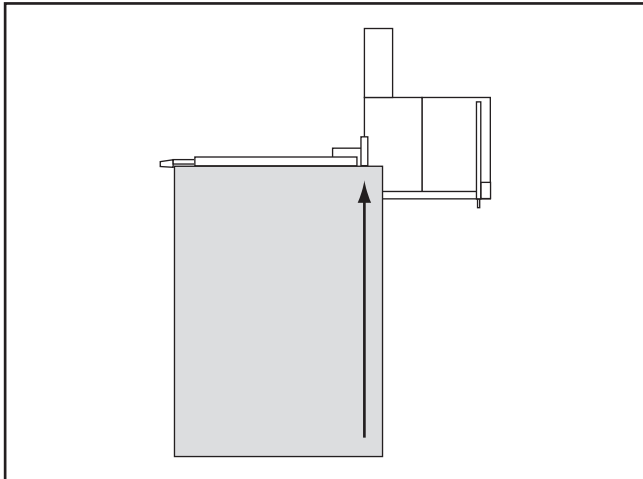

Figure 84. Crosscut fence mounted forward to handle full size panel.
The Model G0699 crosscuts full size panels with the fence in the forward or rear position. However, it is easier to load full size panels with the crosscut fence mounted in the forward position, as shown in **Figure 84**.
- Load the workpiece onto the table saw. The set up should look similar to **Figure 84** on the previous page.